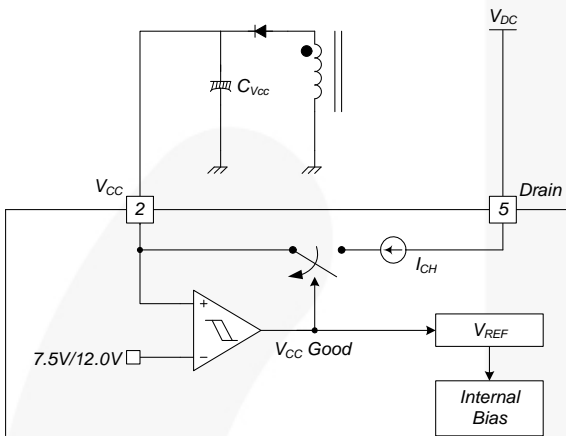

Figure 17. Startup Block
1. Startup: At startup, an internal high-voltage current source supplies the internal bias and charges the external capacitor (C_{VCC}) connected to the V_{CC} pin, as illustrated in Figure 17. When V_{CC} reaches 12V, the FSL156MRBN begins switching and the internal high-voltage current source is disabled. Normal switching operation continues and the power is supplied from the auxiliary transformer winding unless V_{CC} goes below the stop voltage of 7.5V.